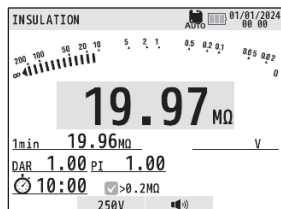

Fig. 15-1
- (1) Start with the screen on which the measured value is held after measurement. (Fig. 15-1)